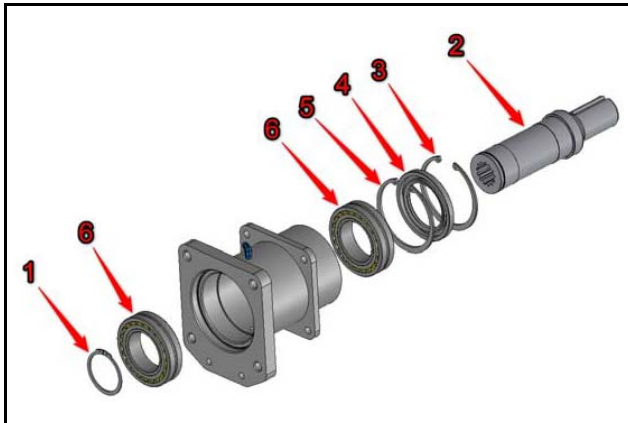

Figure 29
1. Pack grease in the bearing. Fill the space in between the internal rollers on both sides of the bearing then insert the bearing into the OLA case **[Figure 29]**.